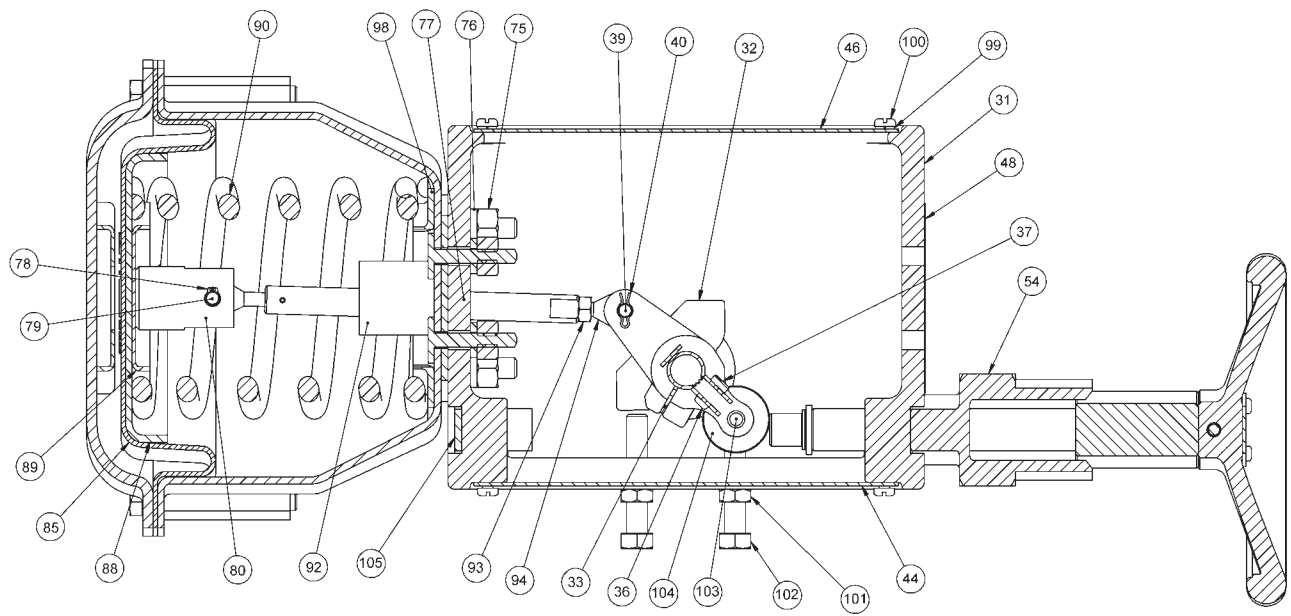

Figure 13 - Size AC Actuator
- D. Install assembly into handwheel mounting bracket (62) and replace pivot pins (72).
- E. Connect handwheel shaft S/A (55) to handwheel (54) and to the lever arm with pin (66) and replace clip (63).
3.5.2 Handwheel Subassembly – Model 33, Size AC. Refer to section 3.5.1 for sizes B & C. Refer to Figures 13, 14 & 16.
- B. Rotate Handwheel (54) counterclockwise until it is removed from housing (31).
3.5.2.2 Reassembly. Refer to Figures 13, 14 & 16.
- A. Thread handwheel assembly (54) into housing (31) until it extends through the housing and the groove in the stem (54-3) is visible.